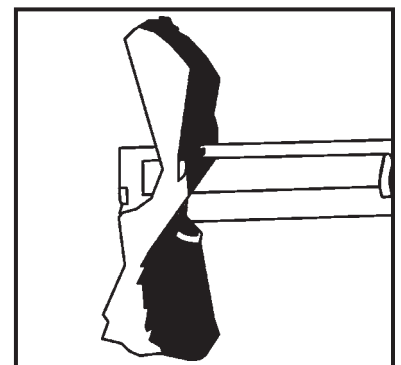

FIGURE 6
3. Adjust broom contact. (See Figure 6).